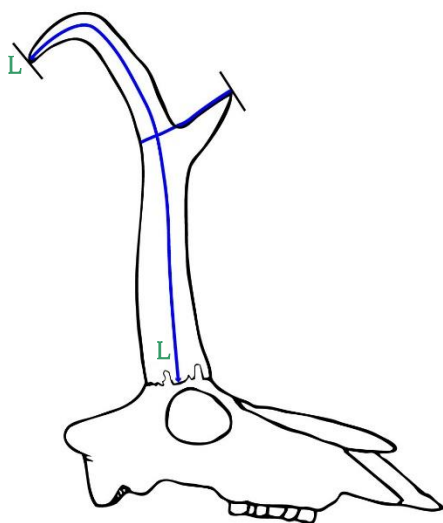
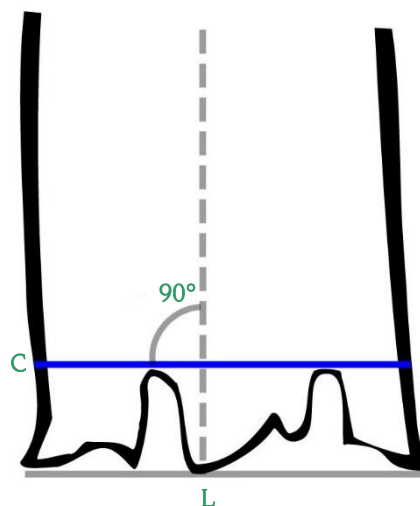
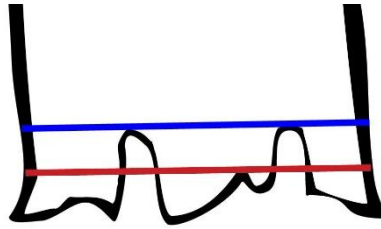

Figure 1
Figure 2
Figure 3
1. Length. Measure the length of each horn along the outside surface of the horn starting on the center of the horn. (Figure 1) To find the starting point of the length measurement, draw a line at 90-degree angle to the axis of the horn where it touches the lowest point. (Figure 2 and 3) (This also ensures the longest length measurement.) Follow the grain of the horn along the center of the outer edge to the horn tip. The tips often curve down, but they may do so either backward toward the tail, inward toward the base of the horn, or even forward. In some unusual cases the tips point partially upward. In all cases follow the grain of the horn. Carding off may be needed. (See General Instructions.)
2. Circumference. Measure the circumference of the base of each horn at a right angle to the axis of the horn. (Figure 2) Find the lowest point where a circle can be made at a 90-degree angle to the axis of the horn. Make sure that the tape touches the horn at all times along the entire measurement. Do not allow the tape to bridge over air gaps at the uneven end of the horn. See red (wrong way to measure) and blue (right way to measure) lines. (Figure 3) It should be noted that the bases of a pronghorn can be inflated by soaking them in liquid for a prolonged period; also, the use of bonding substances when mounting the head can increase the bases. If a measurer notices excessive (swollen) bases on a mounted head, he should note it in the comments section and submit photos to the editors. Attempts to artificially inflate the bases will lead to disqualification of the entry.